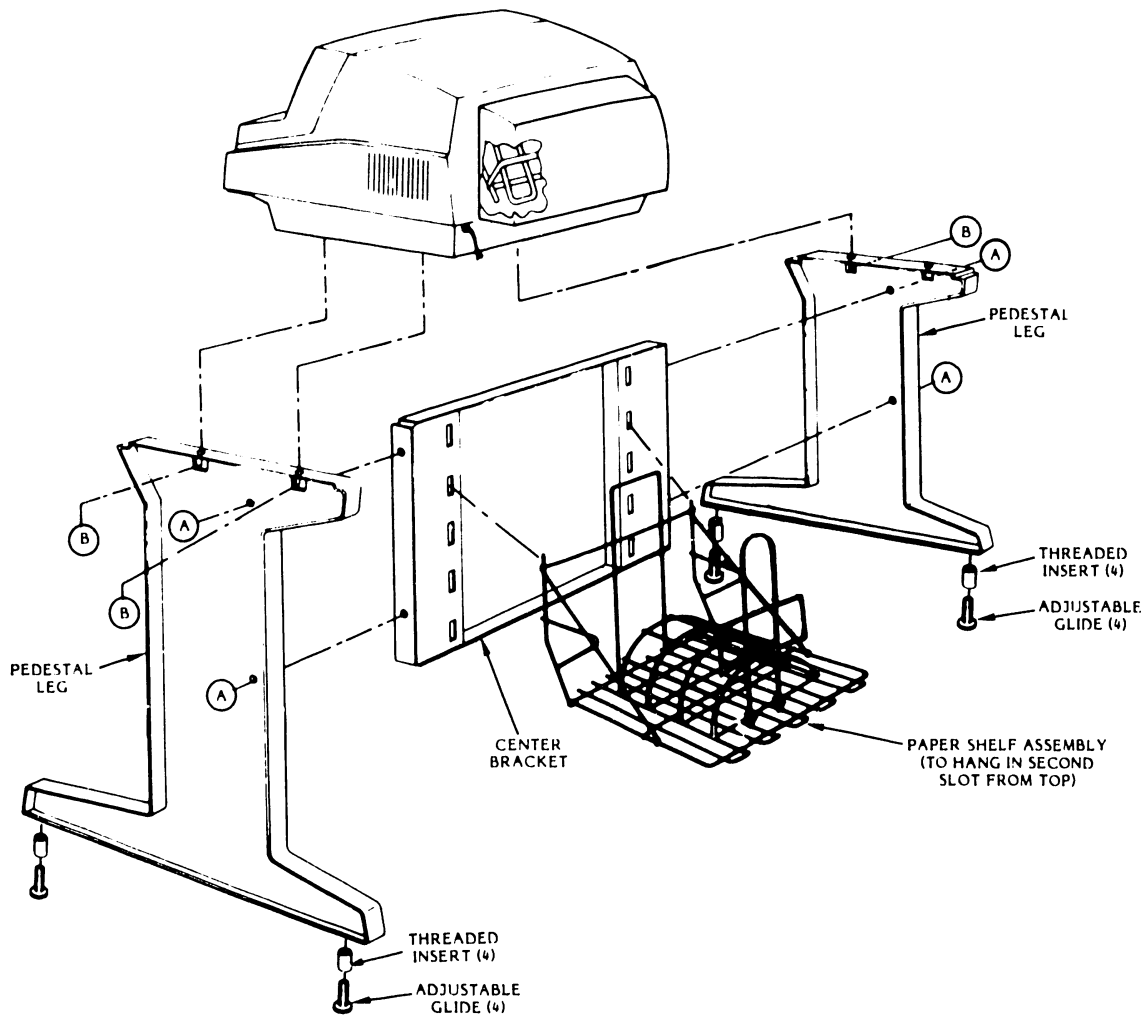

Figure 2-5. Printer-to-Pedestal and Paper Shelf-to-Pedestal Installation
The pedestal and paper shelf assemblies are shipped to you in a separate container. Figure 2-5 shows the individual piece parts that make up the pedestal and paper shelf assemblies.
- b. Press fit the threaded inserts into the pedestal legs as shown in figure 2-5; then screw the adjustable glides equally into the inserts.
- c. Using the 5 mm hex driver and the four socket head cap screws, connect the pedestal assembly parts together firmly at location (A) as shown in figure 2-5. Then loosen those screws one turn.
- d. Set the printer on the pedestal assembly as shown in figure 2-5.
- e. Using the 10 mm open end wrench, secure the printer to the pedestal with the three 6 mm hex head screws at location (B) as shown in figure 2-5.
- c. Mount the paper shelf assembly to the printer pedestal as shown in figure 2-5.